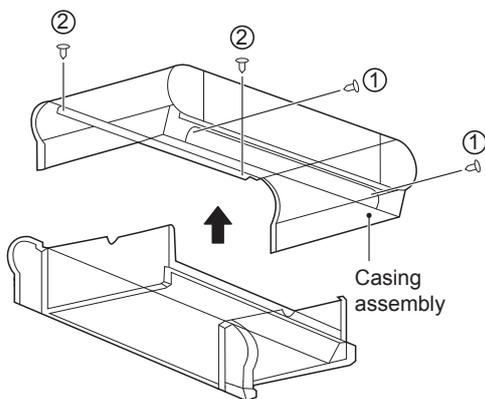

Figure 4-4 Removal of casing
- b) As shown in Figure 4-4, remove screws ① *2 and ② *2 and then the casing.